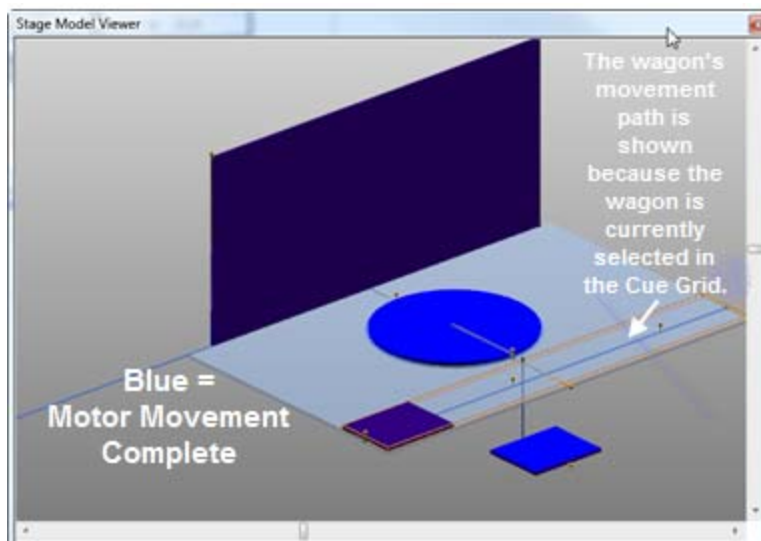

Figure 335
- The motor(s) that have completed their movements in the Cue change to blue inside the Stage Model Viewer (Figure 335).